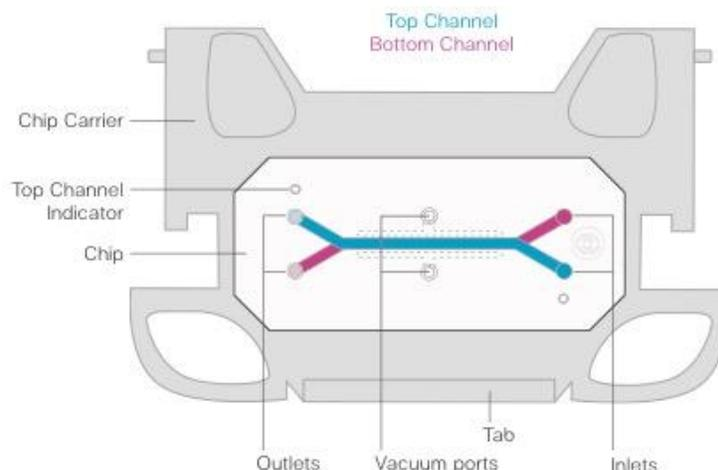

Figure 2: Top view of chip, with labelled ports, in chip carrier
2. Carefully introduce approximately 20  $\mu$ L of ER-1 solution through the bottom channel inlet, pipetting until the solution begins to exit the bottom channel outlet (see Fig. 2 above).
4. Introduce approximately 50  $\mu$ L of ER-1 solution to the top channel inlet, pipetting until the solution begins to exit the top channel outlet (see Fig. 2 above).